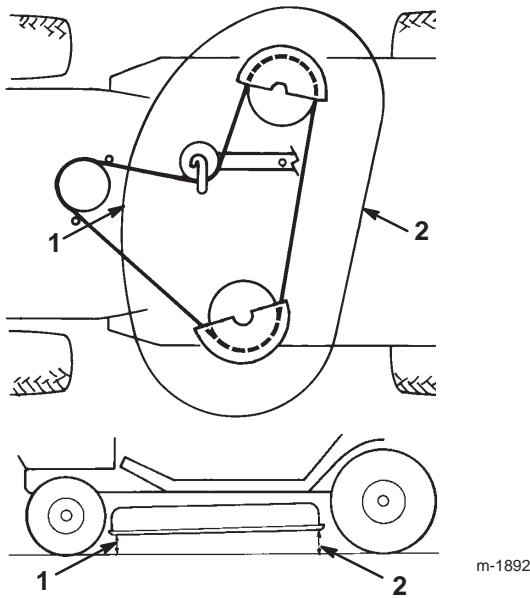

Figure 51
10. Check the front-to-rear slope by measuring between the bottom of the mower (front center and rear center) and the flat surface (Fig. 51). If the front is not within a range of 1/8 to 3/8 in. (4 to 11 mm) lower than the rear, an adjustment is required.
13. After adjusting both eyebolt locknuts evenly, check the front-to-rear slope again. Continue adjusting the eyebolts until the front blade tip is 0 to 3/8 in. (0-9 mm) lower than the rear blade tip (Fig. 51).